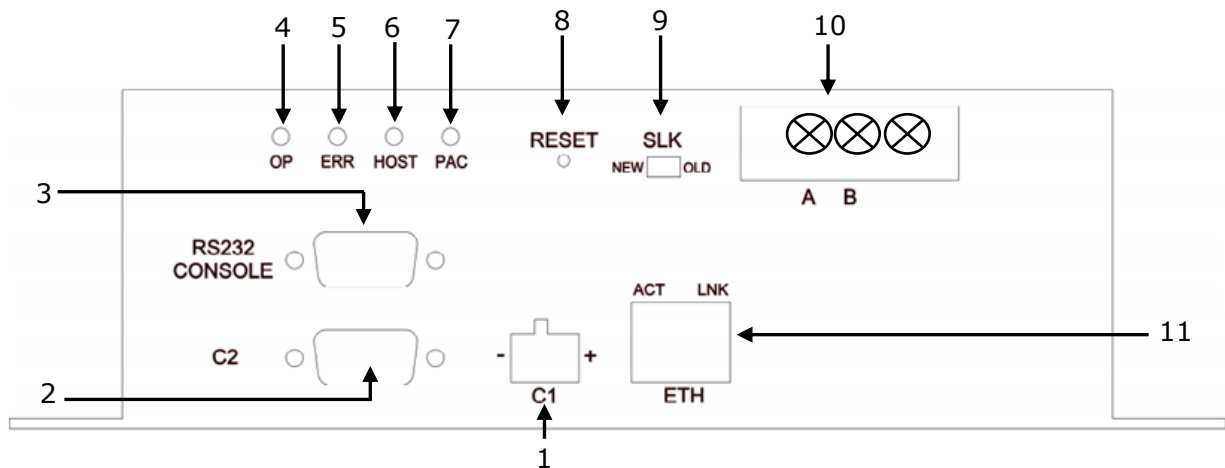

Figure 3.1 Intesis™ KNX device front view
- Ethernet: Using the ETH port (**Figure 3.1**) of Intesis™. How to check connectivity is explained in section 6.3.
- Serial cable: Connect the Intesis™ device to the PC serial port using the serial cable provided. One end should be connected to the Console EIA232 port of the Intesis™ device (**Figure 3.1**) and the other end to the PC serial port.